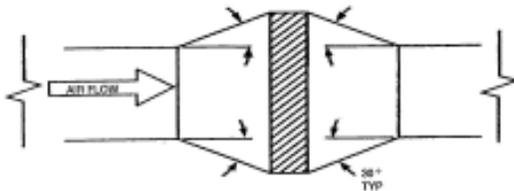

Figure 6 - Transition Section
3.4 If the duct heater is larger than the duct, use a duct transition section as shown in Figure 6 below.